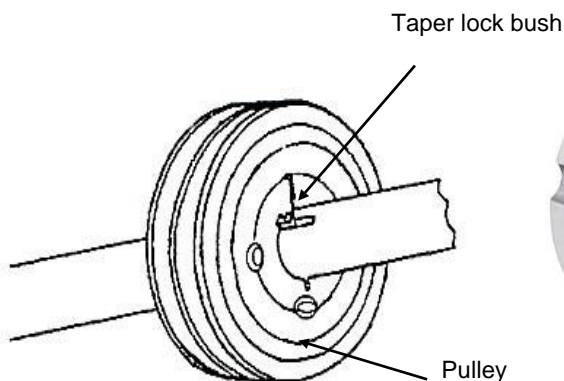

FIG 16.
B. It is keyed on to the shaft. (Fig 16)